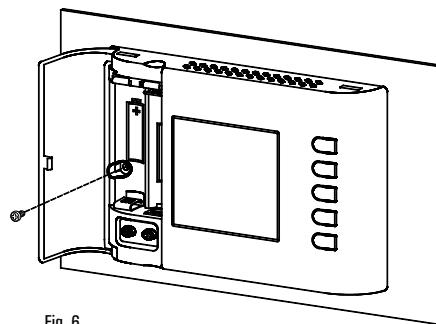

Fig. 6
- Secure the body of the programmable thermostat to the wall plate using the supplied screw that is located inside the battery compartment (Fig. 6).